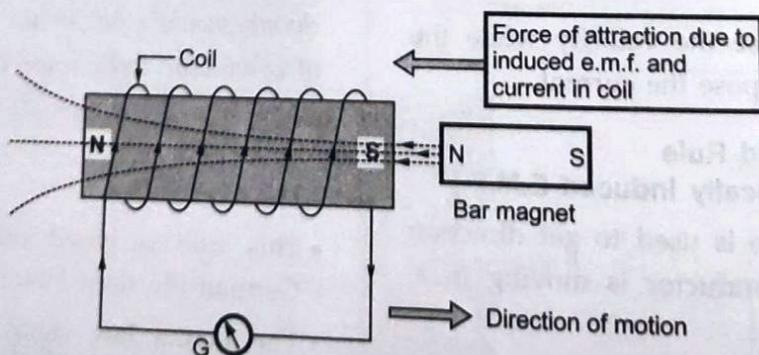

Fig. 1.21.4 (b) Lenz's law
- Because of this, two unlike poles will face each other and there will be force of attraction which is opposite to the direction of movement of magnet as shown in the Fig. 1.21.4 (b).